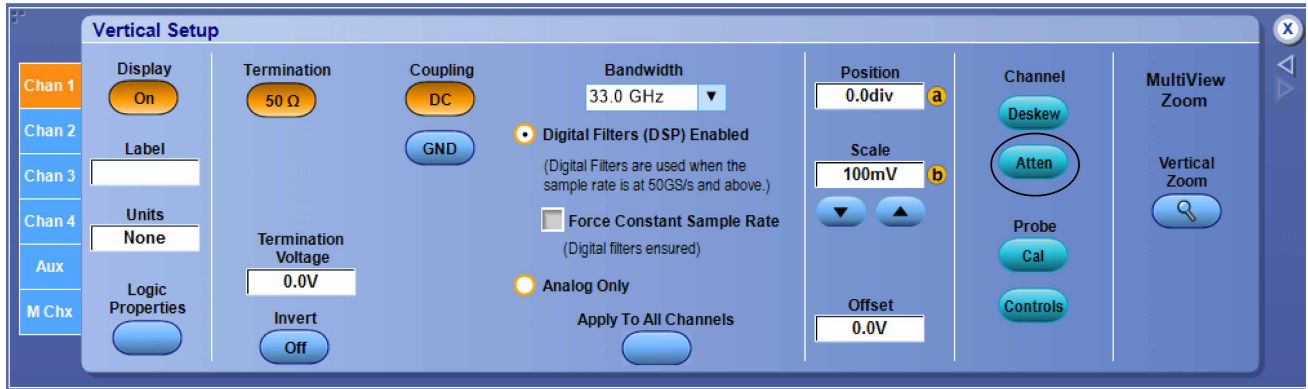

Figure 22: Vertical Setup showing Atten icon
4. If any external attenuation is connected to any channel, then set the attenuation value on the **Atten icon of Vertical Setup**, as shown in Figure 22 on page 26.